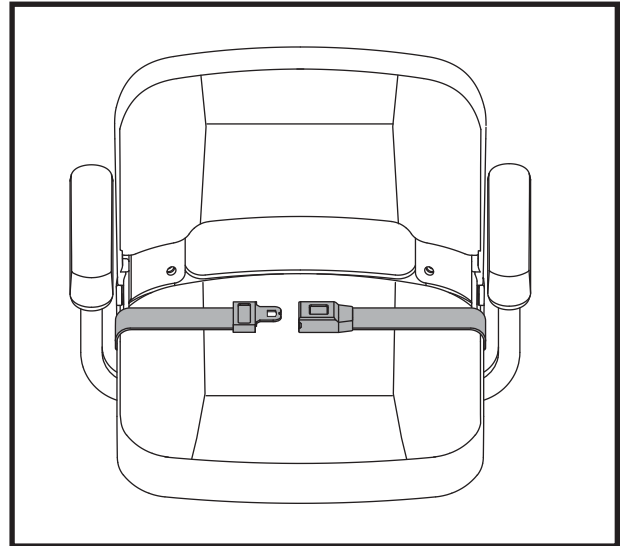

Figure 22. Positioning Belt - Metal Tab Style
Your scooter seat may be equipped with an auto-type positioning belt that can be adjusted for operator comfort. **See figure 22 or 23.** The positioning belt is designed to help support the operator so that he or she does not slide down or forward in the seat. The positioning belt is not designed for use as a restraining device.
1. Insert the metal tab on the right side of the belt into the plastic housing on the opposite strap until you hear a “click.” See figure 22.